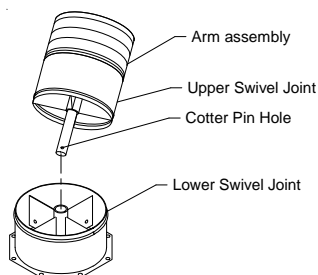

Fig. 1
2. Mount the hose assembly to the unit. Insert the shaft into the lower swivel joint. The flexible hose must be pulled back. Insert the cotter pin (supplied) by reaching through both swivel joints to the underside of the lower swivel joint (fig. 1)